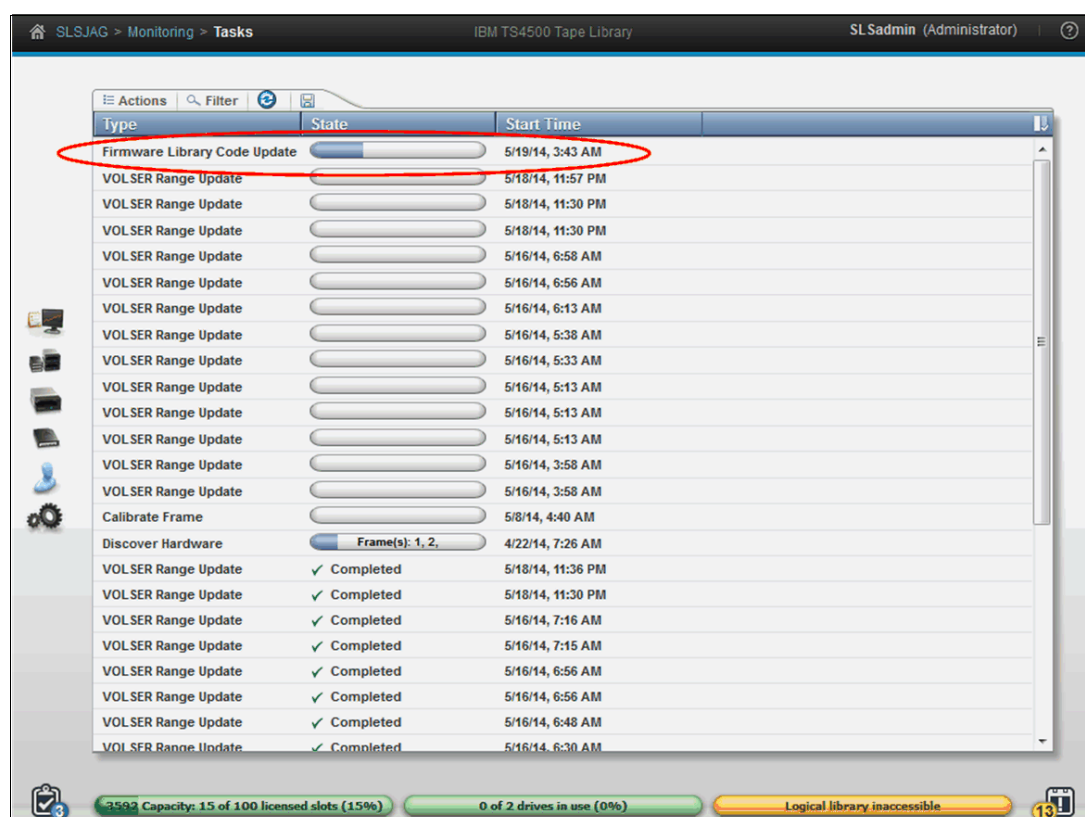

Figure 4-164 Firmware update status
4. The firmware is downloaded to the TS4500 Tape Library first, and this download can take a few minutes. Then, the update starts and the Tasks pod, which is at the lower left of the System page, indicates that the firmware update task is in progress. Monitor the status of the update from the Tasks page by selecting **Monitoring** → **Tasks**, as shown in Figure 4-164.